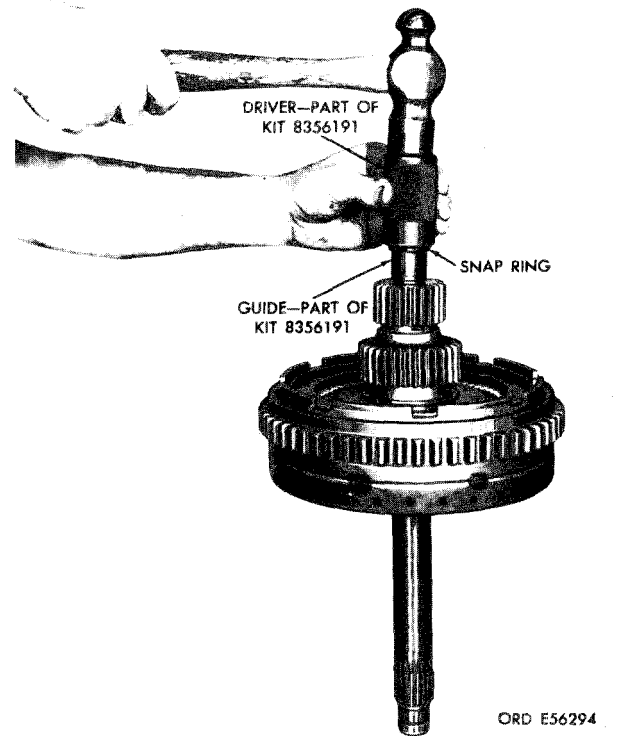

Figure 5-73. Installing low-range sun gear snap ring using driver and guide (part of kit-5120-572-8663 (8356191)).
(4) Using guide and driver, part of kit 2120-572-8663, install snap ring to secure sun gear on shaft (fig. 5-73).